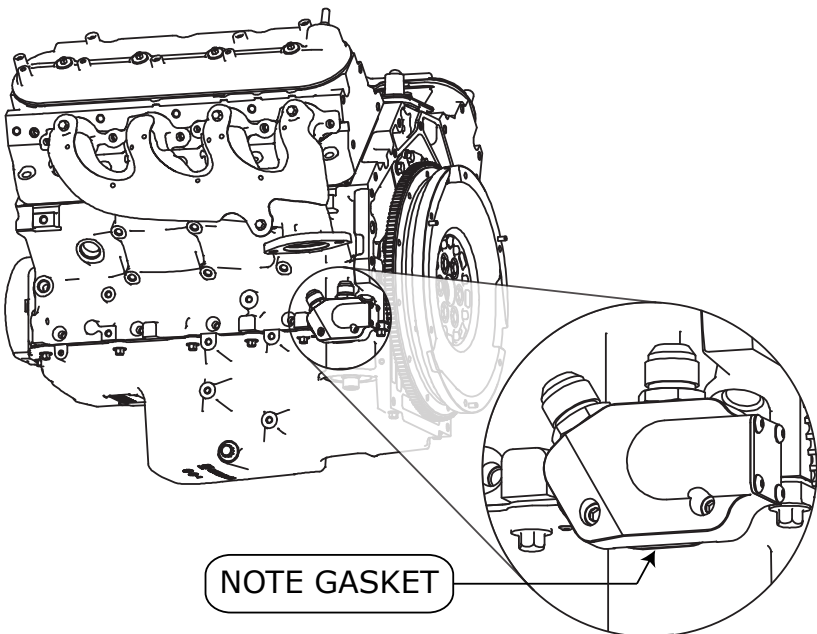

Figure 5 - Installed Oil Cooler Adapter & Gasket
5. Install the oil cooler adapter and gasket onto the oil pan using the M6 socket screws and a 5 mm hex-drive bit/key, shown in Figure 5. Torque to a maximum of 120 lb-in (10 lb-ft).